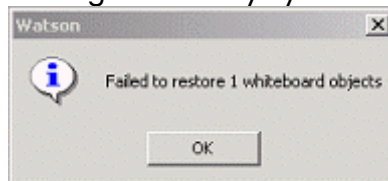

Figure 1: Warning message
1. A warning message appears showing how many systems failed to restore as shown in Figure 1.